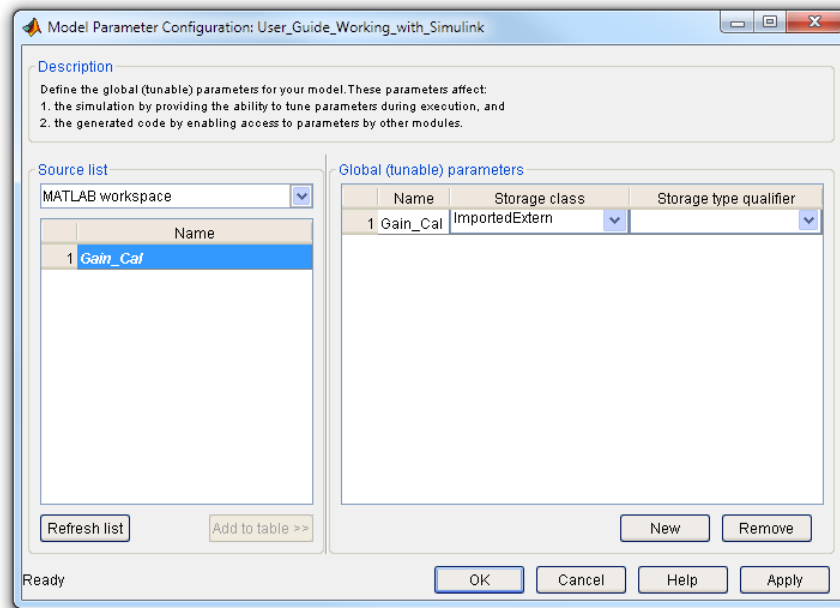

Figure 10.43: Configure a MATLAB Variable as a Calibration Parameter
- Change the Storage class of the MATLAB variable to **ImportedExtern**, as shown in figure 10.43.